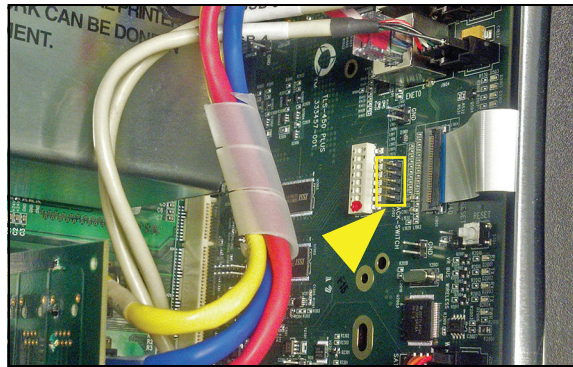

Figure 4. Remove the Acknowledge Switch Panel Cable from Its CPU Board Connector
- Figure 4. Remove the Acknowledge Switch Panel Cable from Its
- For right doors with an Acknowledge Switch panel, remove its cable from its connector (J502) on the CPU board (see Figure 4).
20. For right doors with an Acknowledge Switch panel, reconnect its cable to connector (J502) on the CPU board (ref. Figure 4).